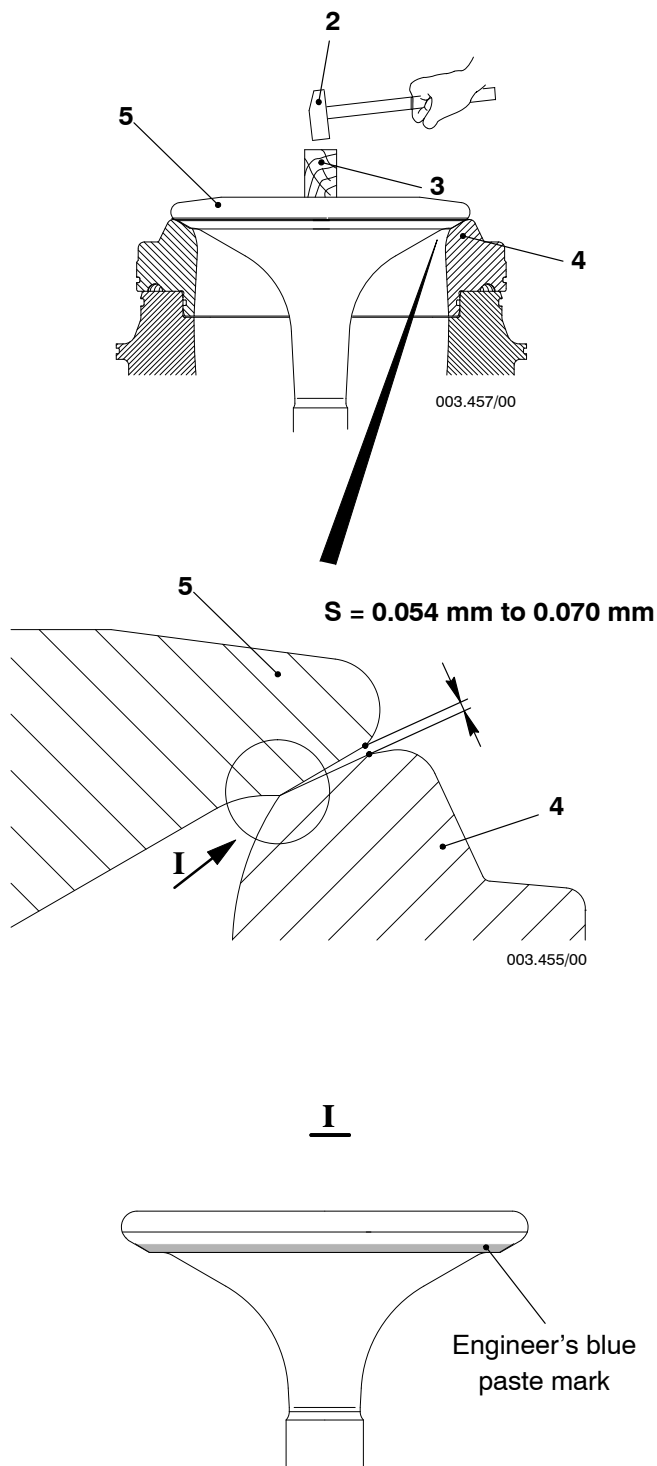

Fig. 5
- 1) Put a thin layer of engineer's blue paste on the sealing face of the valve spindle (5), refer Fig. 5.
- 2) Put the valve spindle (5) in position in the valve guide bush.
- 3) Put the wooden block (3) on the valve spindle (5).